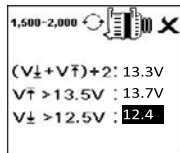

Fig.51
- If either minimum or maximum charging volts are not within the voltage range limits then it will display one of the screens as below (Fig.51& 52) and it will highlighted which prompt the user to check the charging system for the fault.